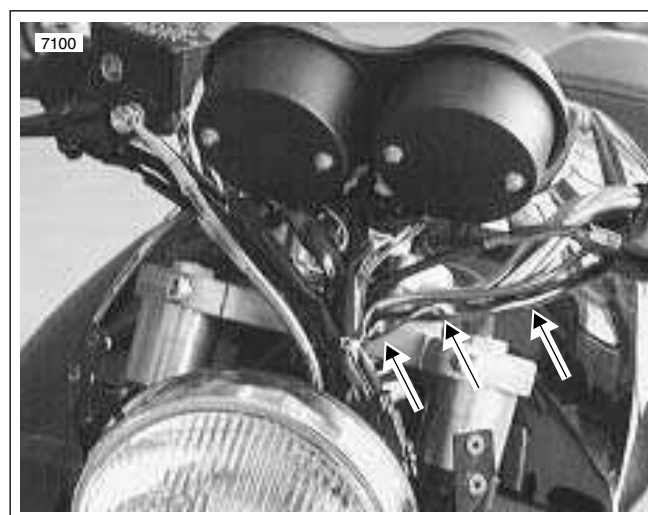

Figure 7-53. Routing Handlebar Wires, Left
2. See Figure 7-53. Route switch housing wiring harness between front forks and along right side frame tube. Attach connector [24] and, if necessary, connector [95] to wiring harness. Fasten wiring harness to frame with **new** cable straps.